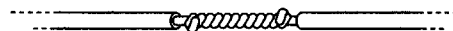

FIGURE 8-2: Twisted wire-wrap wires
2. Twist the bare ends together, as illustrated in Figure 8-2.